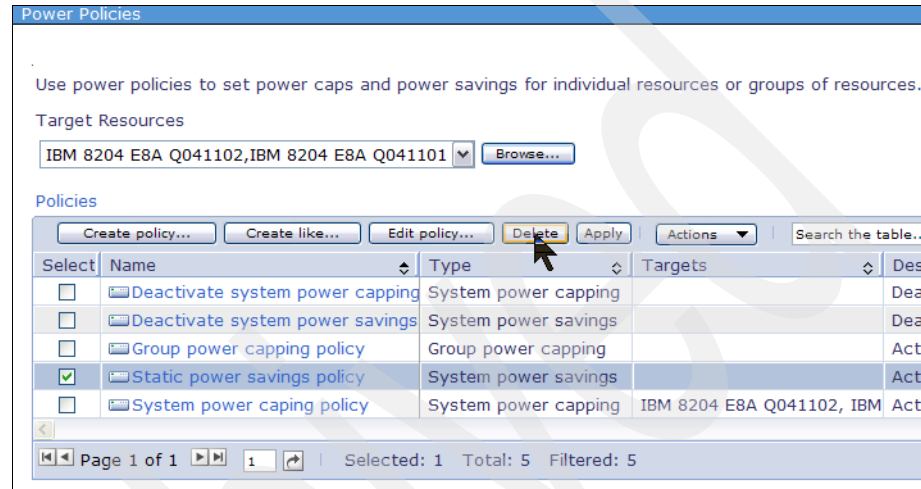

Figure 7-78 Deleting a policy
2. You see the display shown in Figure 7-78. Select the policy that you want to delete, and then click **Delete**.